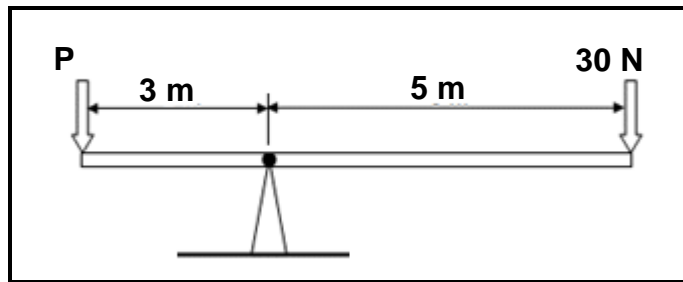

FIGURE 4.5
- D adjust a stock. (1)
4.5 What is the magnitude of force **P** in FIGURE 4.5 to keep the system in equilibrium?